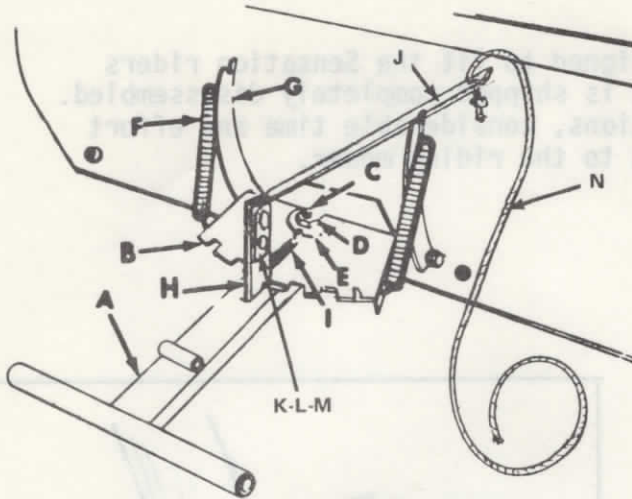

FIG. 3
Bolt Push Tube Assembly (A) to Pivot Plate Assembly (B) with 3/4"-10 x 3" Carriage Bolt (C) (See Figure 3). Insert Bolt through upper and lower Pivot Plates from bottom. Place a 3/4" Hex Jam Nut (D) over bolt and tighten it down. Make sure the Push Tube Assembly is free to pivot after the Nut is tightened. Then place the Latch Spring Washer (E) over the bolt and secure it with another 3/4" Hex Jam Nut (D).
Put one end of Trip Spring (F) in notch of Pivot Plate and stretch other end to notch in top of Bar Mount (G) (See Figure 3). Repeat for other side. Insert end of the two Pinned Pivot Lock Bars (H) from bottom through slot in Push Tube Assembly making sure small hole is toward the front. Insert long end of Latch Spring (I) in this hole. Hook other end in small hole of Latch Spring Washer (E). Assemble Lock Bar Extension (J) to lock bars, securing with 3/8" x 1-1/4" Carriage Bolts (K) 3/8" Lock Washers (L) and 3/8" Hex Nuts (M). Tie knot in end of pull rope (N) and thread thru hole in Lock Bar Extension.